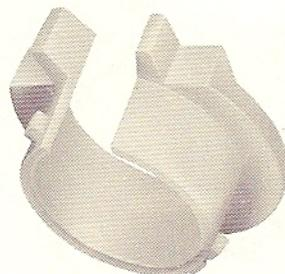

Fig. 29 — P-14E582 Retainer Ring
- 500W/Y telephone sets can be equipped with a P-14E582 retainer ring (Fig. 29) to prevent pilferage of the lamp cap assembly.